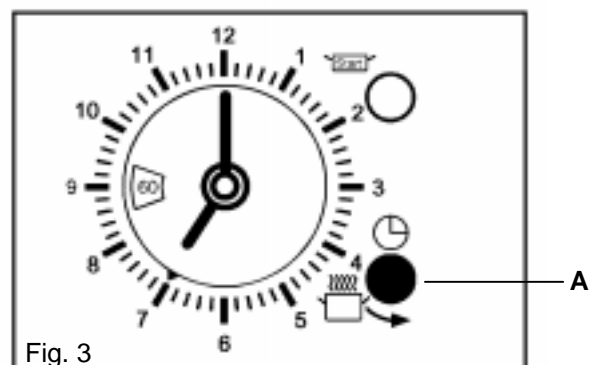

Fig. 3
Turn setting knob (A) anti-clockwise, **without pushing it in**. The selected minutes can be seen in the display window, e.g. 60 minutes as Fig. 3.